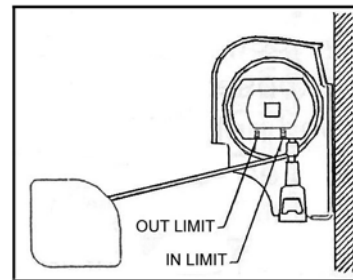

Fig. 1 - Motors with Black Plastic Casings
4. The IN limit is the BLACK arrow. To make the awning close MORE, first turn the main awning wall switch or Wind Sensor switch to the IN (retract) position. At the motor, insert the tool and turn the switch next to the BLACK arrow in the direction of the (+) sign. ¼ turn represents approximately 1” of the awning movement. This action will create a tighter fit as the awning box closes. To make it close LESS, turn in the direction of the (-) sign. See Fig. 1.
The OUT limit is the RED arrow. To make the awning extend MORE and release more fabric, first turn the main awning wall switch or the Wind Sensor switch to the OUT (extend) position and extend the awning to its maximum position. Proceed by turning the limit switch next to the RED arrow in the direction of the (+) sign. To make the awning extend LESS, turn the switch in the (-) direction. See Fig. 1.